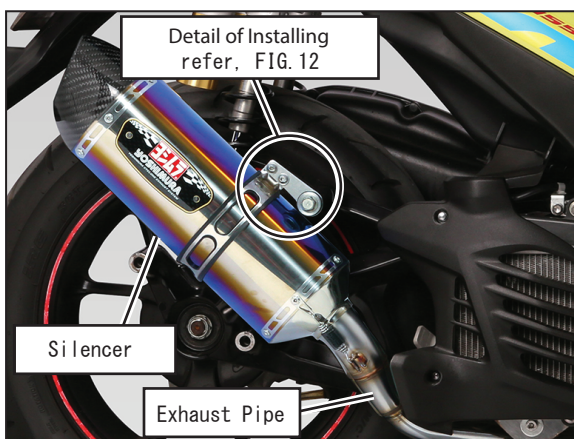

FIG. 12
- 10) Mount Silencer Bracket on Stock Silencer Bracket by Using Stock Bolt M10 and 2-Stepped Spacer 10-26-9. Tighten bolt by hand only at this stage (See Fig. 12, 13).